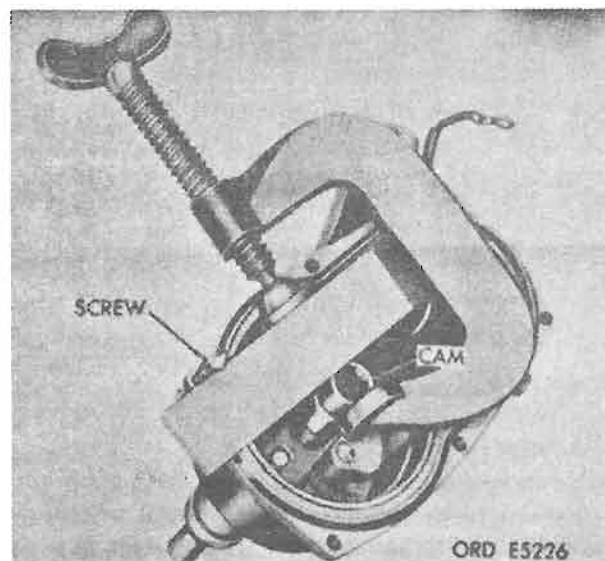

Figure 6-9. Clamping distributor shaft.
(2) Install one cover-attaching screw in lower left hand corner of housing (fig. 6-9).
(3) Place piece of 1-inch stock so that one side is flush with flat side of cam and other side against cover-attaching screw. Clamp stock securely in this position (fig. 6-9).